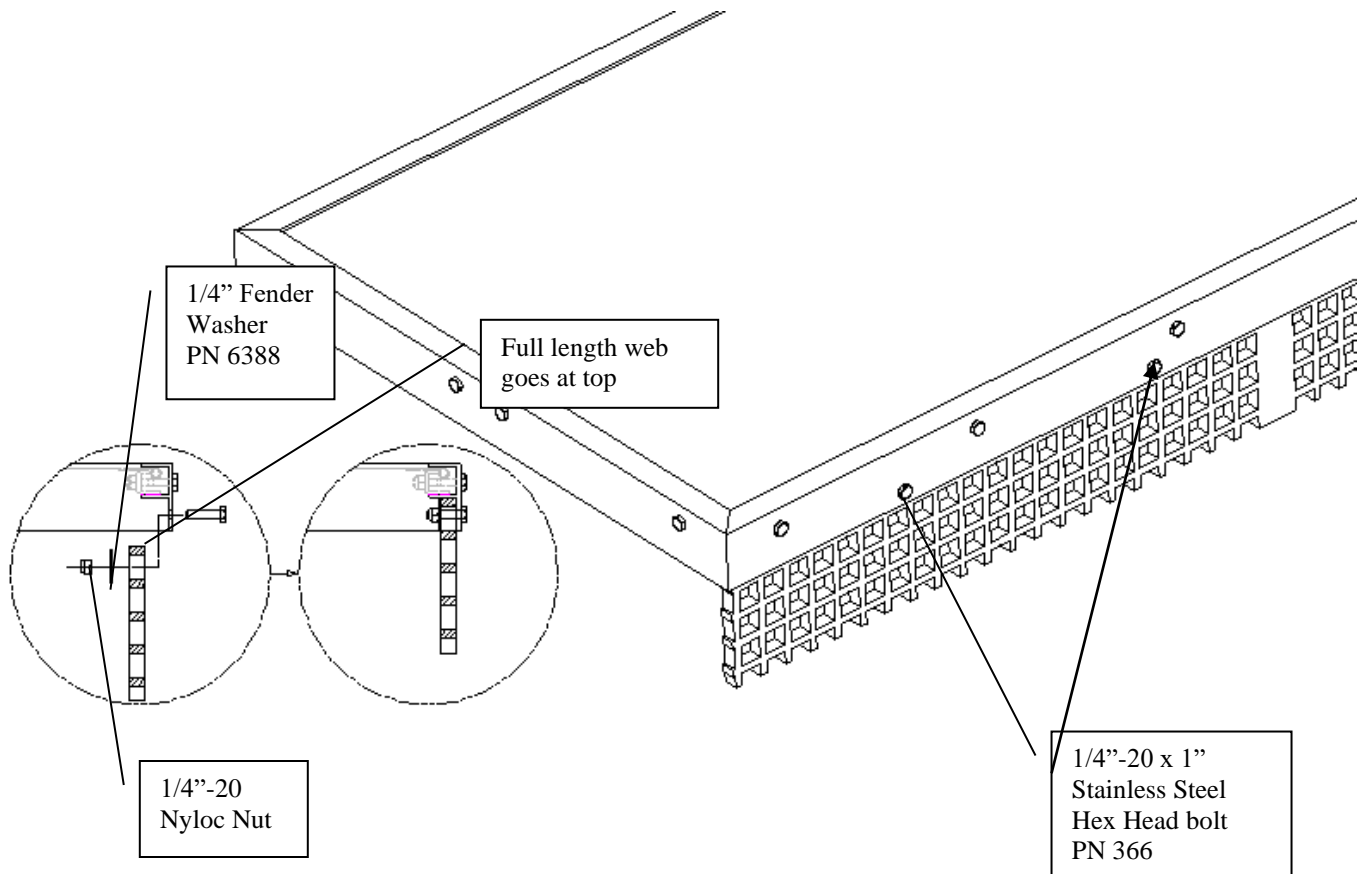

Figure 3.
6. Attach the grid front support to the angle on the bottom of the rest bench using the supplied hardware. Be sure to place the grid so that the long side with a full length web is at the top to prevent the grid from slipping off of the bolts. See Figure 3.